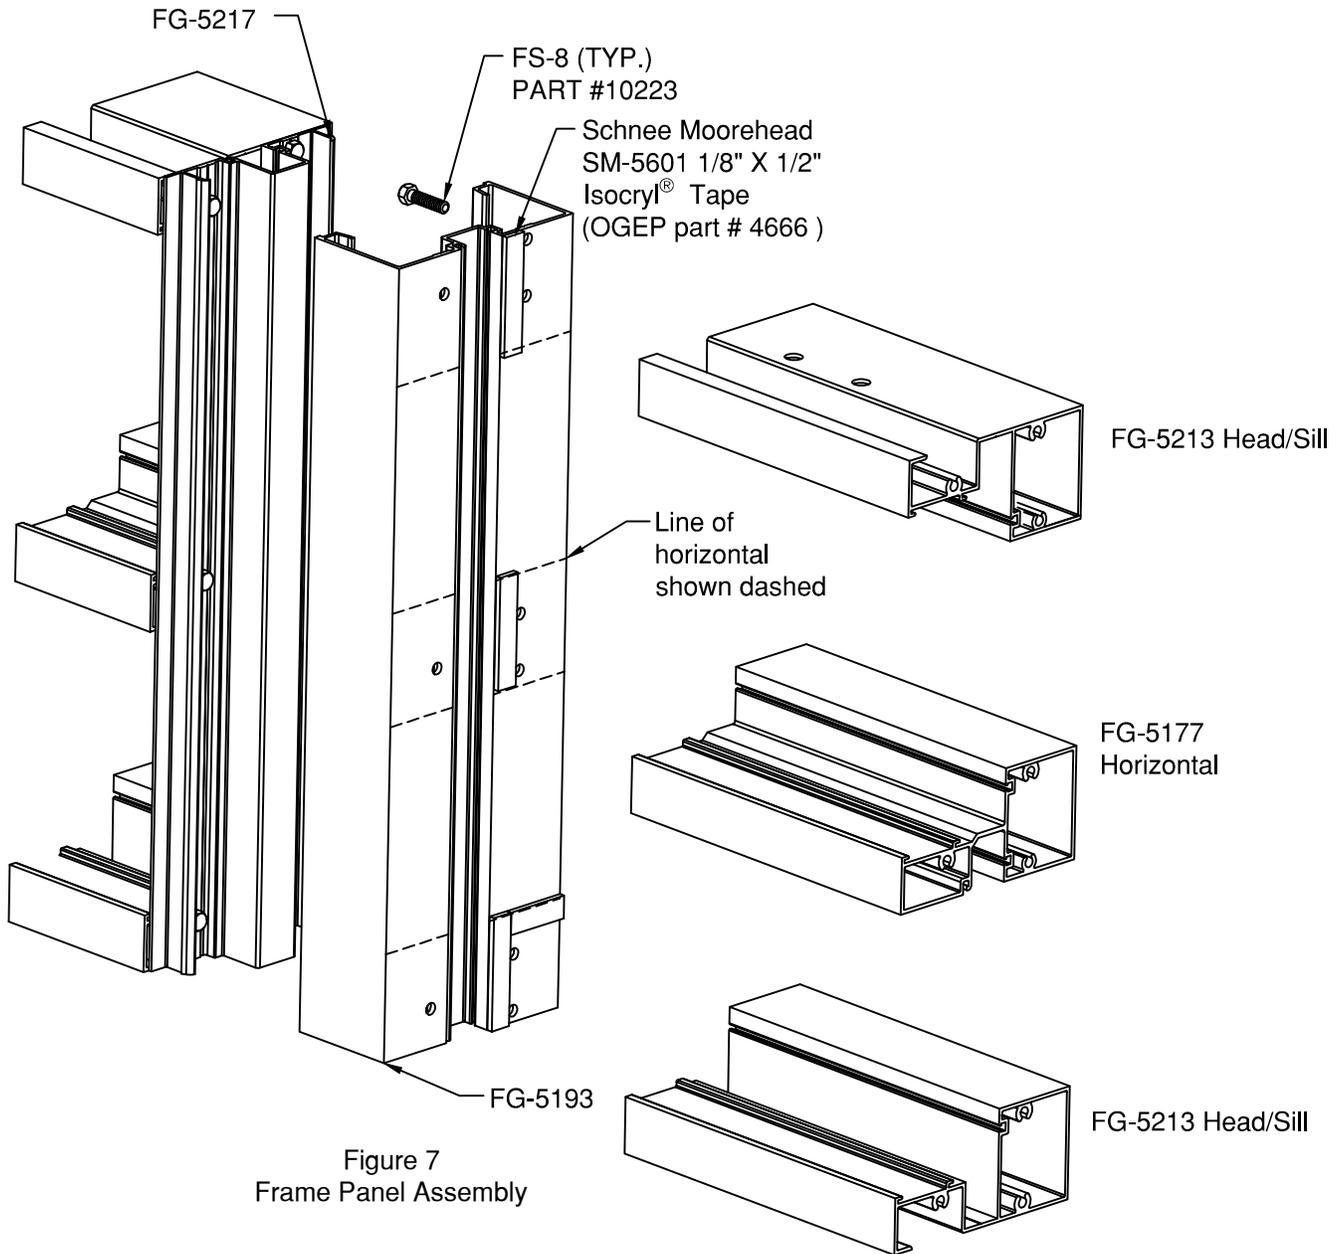

Figure 7
- 2.2.1 Clean framing members at locations where Isocryl® Tape is noted to be attached. SEE FIGURE 7, at tape intersection there should be no gaps.
Note: also install FG-5185 at vertical , if it was not installed prior to attaching horizontals **see Figure 7 on Page 12** .